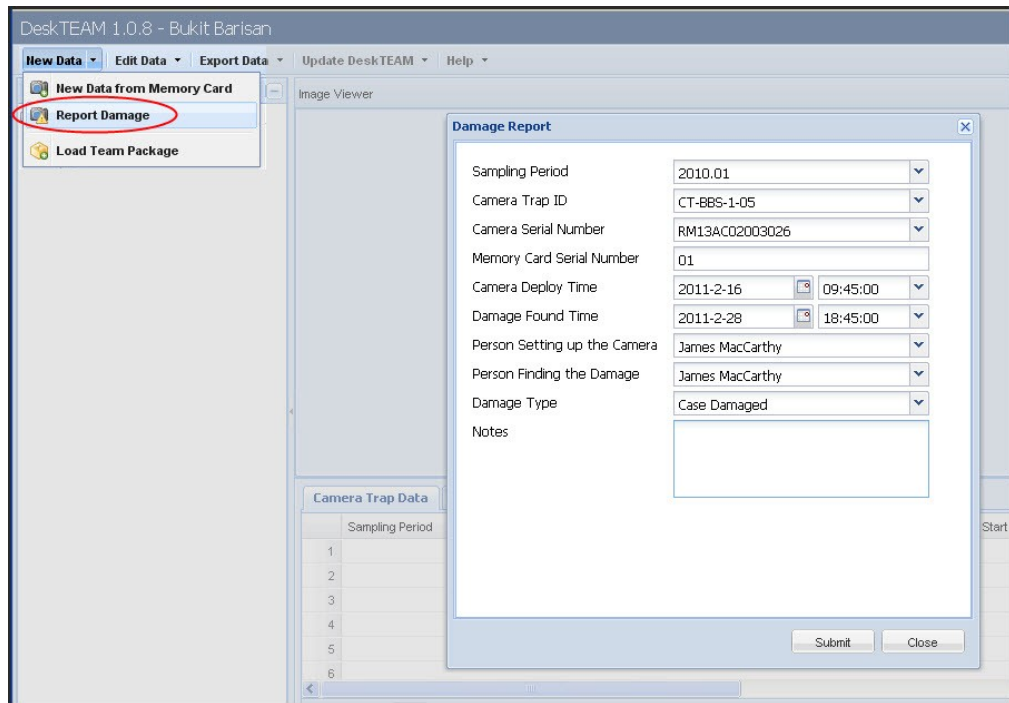

Figure 12. Screenshot of the form that appears when reporting a damaged camera trap or memory card.
12. **Record damaged equipment.** Information from the *Damaged Camera Traps* form should be entered in DeskTEAM by clicking the arrow next to New Data on the Menu Bar and selecting Report Damage. Enter all of the required information on the form that appears and click Submit. If a memory card is suspected to be damaged, follow the steps in Section 4.10.2 to determine the problem. If the memory card is unusable, use the *Damaged Camera Trap Field Form* (Appendix A5) to record information about it. Also **transcribe the information to DeskTEAM** using the Report Damage function located in the New Data menu (Figure 12).